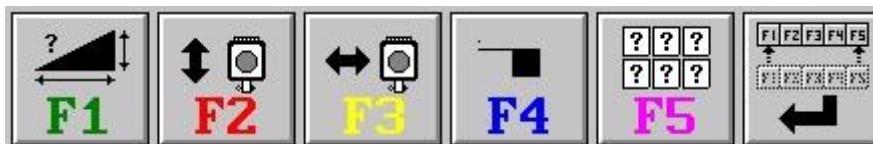

Figure 4-53
3. Press ENTER to access each of the 3 toolbars. Set options as required. See figure 4-53.